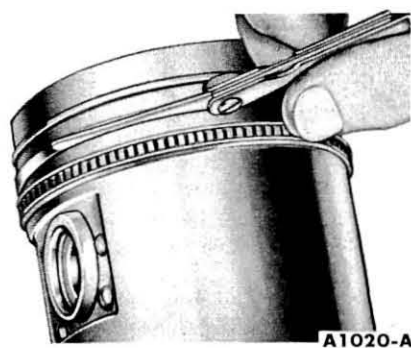

FIG. 22—Piston Ring Side Clearance
6. Check the ring side clearance of the compression rings with a feeler gauge inserted between the ring and its lower land (Fig. 22). The gauge should slide freely around the entire ring circumference without binding. Any wear that occurs will form a step at the inner portion of the lower land. **If the lower lands have high steps, the piston should be replaced.**